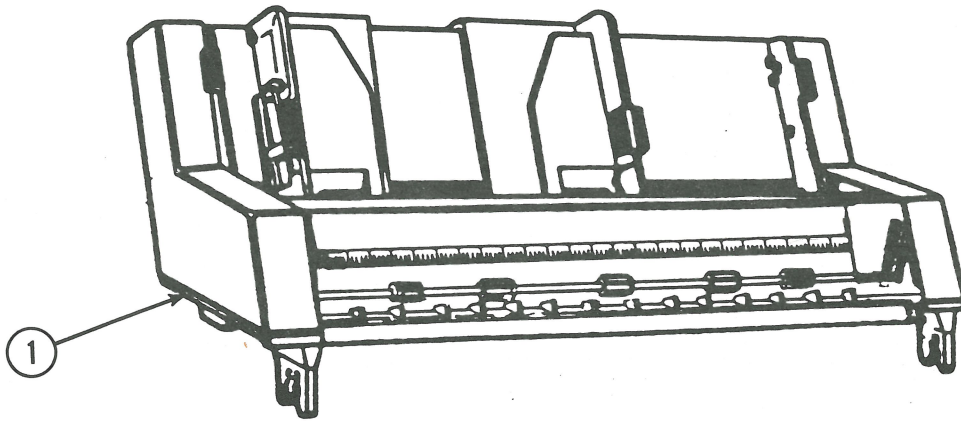

FIGURE 3
- SF-IPL.5 Single Bin (Figure 3)
☐ **SINGLE BIN (Figure 3)**